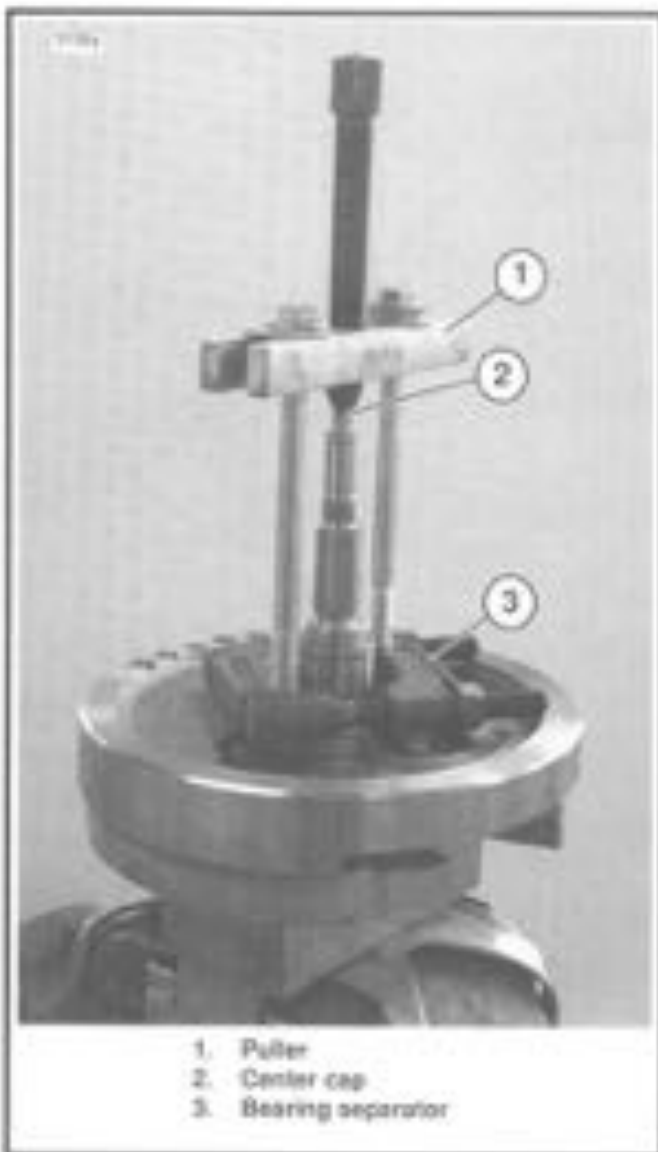

Figure 3-84. Pulling Pinion Shaft Inner Race
See Figure 3-84. To remove pinion shaft inner race, use PULLER (Part No. HD-97292-61), CENTER CAP (Part No. HD-95652-43A), and BEARING SEPARATOR (Snap-on Tools Stock No. C7950). Apply heat to race to aid removal. Four sizes of pinion bearings are available.
10. See Figure 3-84. Pull inner race from pinion shaft using FULLER (Part No. HD-87292-61), CENTER CAP (Part No. HD-90652-43A), and BEARING SEPARATOR (Snap-on Tools Stock No. CJ950). Apply heat to race to aid removal.